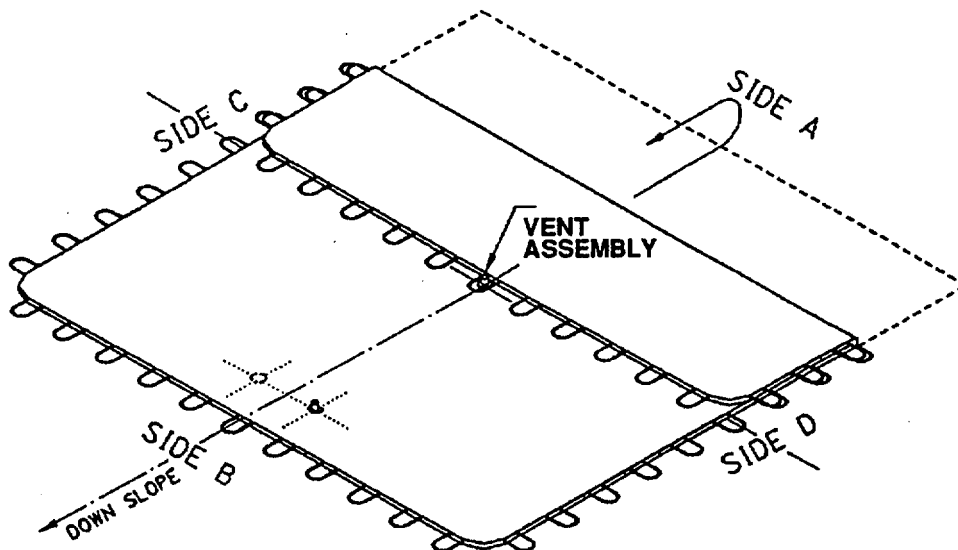
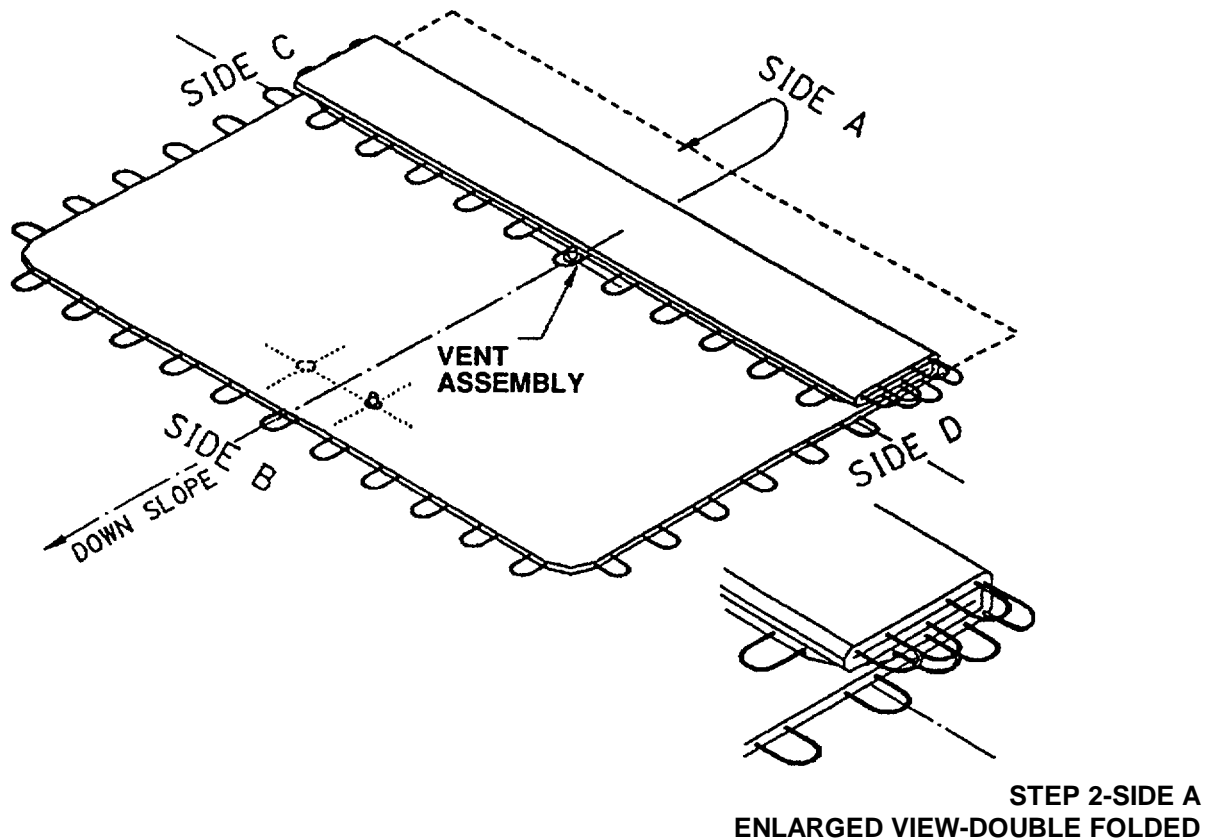

Figure 4-16. First Fold
Figure 4-17. Second Fold
- h. Fold side A (see figure 4-16.) toward the center of the tank bringing that side flush with the vent opening.
- (1) Make certain that the vent opening is unobstructed. Continue to remove air from the tank by evacuating by walking back and forth across the tank after it is folded.
- (2) Fold from side A (see figure 4-17.) again toward the center of the tank bringing the folded edge from Step h flush with the vent opening. Make certain that the vent opening remains unobstructed.
- (3) Continue to remove product and air from the tank by evacuating with a pump and walking back and forth across the tank after it is folded.